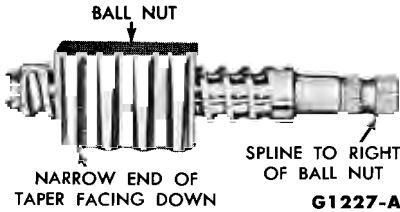

FIG. 12—Positioning Ball Nut—Typical
4. Swab the inside diameter of the ball nut and the outside diameter of the worm with gear lubricant C3AZ-19578-A prior to assembly. Lay the steering shaft on a bench as shown in Fig. 12. After positioning the shaft, turn the ball nut to place the